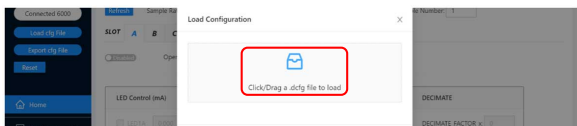

Figure 29. Choose Configuration File
2. Click **Click/Drag a .dcfg file to load** to open the .dcfg file in the **Load Configuration** window (see Figure 29). According to the application or measurement conditions, the user can choose the following initial configurations from the **C:\Analog Devices\VSM Client\VSM_Client\Cfg\ADPD6000** location: